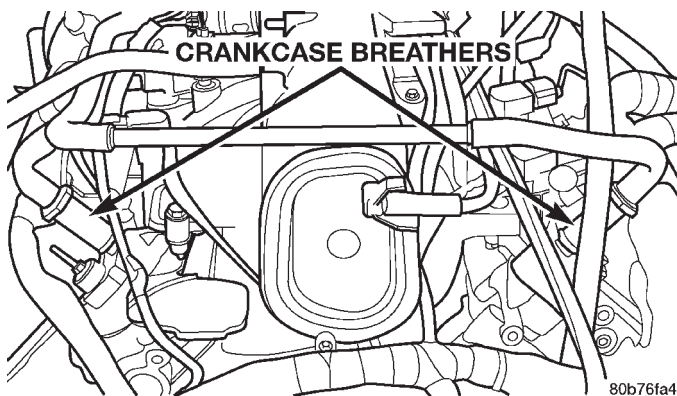
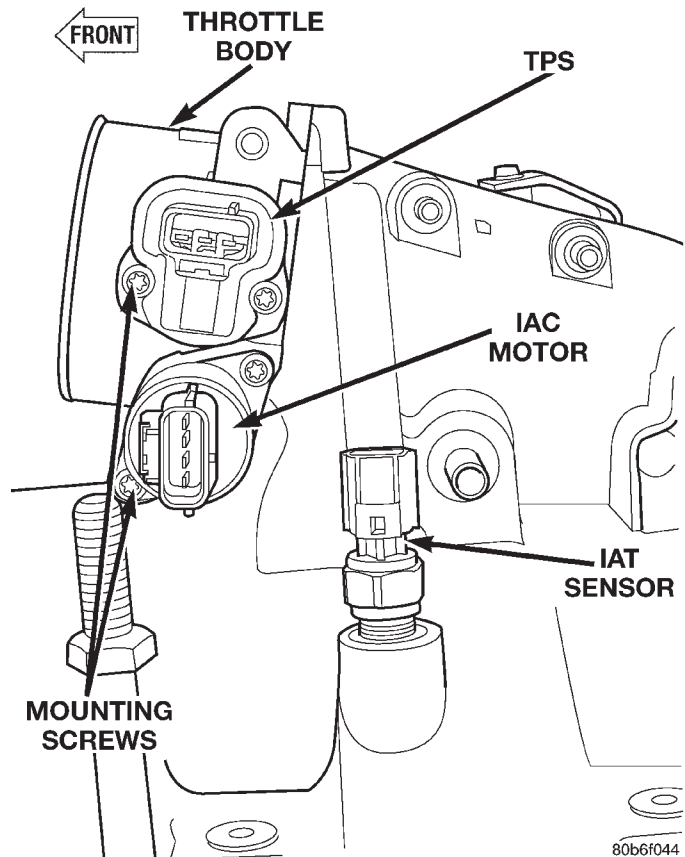
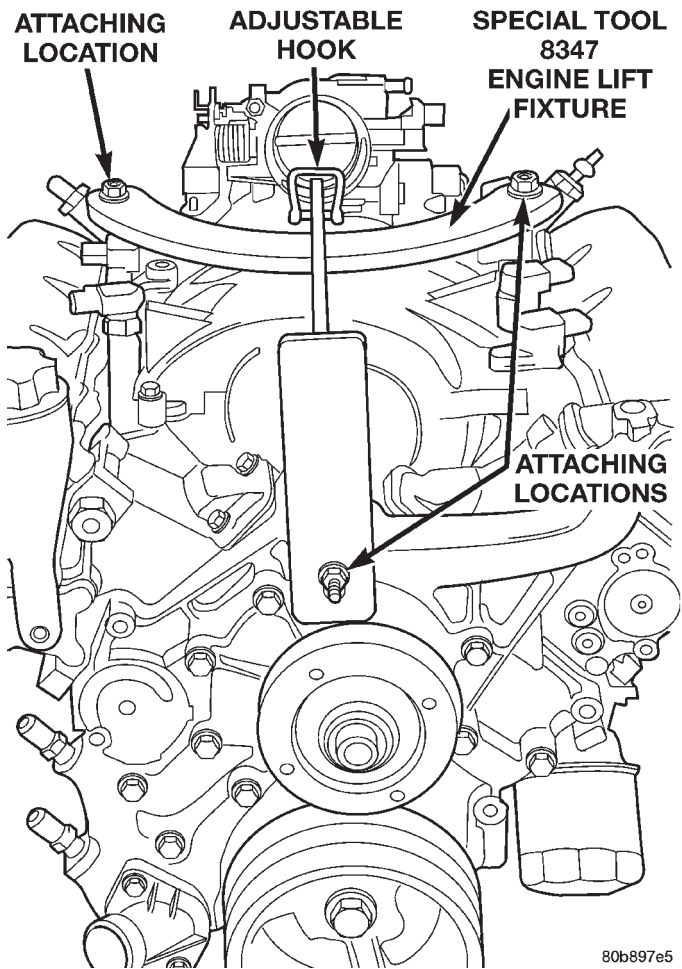

Fig. 31 Crankcase Breather Connection Points
Fig. 32 Throttle Body Connection Points
Fig. 33 Engine Lifting Fixture Attachment Locations
(17) Disconnect throttle and speed control cables.
(18) Disconnect tube from both the left and right side crankcase breathers (Fig. 31).
(20) Remove A/C compressor.
(21) Remove shroud, fan assemblies and accessory drive belt. Refer to Group 7, Cooling System.
(22) Remove oil fill tube.
(23) Disconnect transmission oil cooler lines at the radiator.
(24) Disconnect radiator lower hose at the thermostat housing. Refer to Group 7.
(25) Remove radiator. Refer to Group 7, Cooling System.
(26) Remove A/C condenser. Refer to Group 24, Heating and Air Conditioning.
(27) Remove generator mounting bolts, set the generator aside.
(28) Disconnect the two heater hoses from the timing chain cover.
(29) Disconnect engine harness at the following points:
- Intake air temperature (IAT) sensor (Fig. 32)
(30) Release fuel rail pressure then disconnect the fuel supply quick connect fitting at the fuel rail. Refer to Group 14 Fuel System for procedure.
(31) Remove power steering pump and position out of the way.
(32) Disconnect ground straps from the left side of the engine.
(33) Remove oil dipstick tube upper mounting bolt. Then remove the generator wiring from behind the dipstick tube.
(34) Install Engine Lifting Fixture Special Tool 8347 (Fig. 33) following these steps.
- (1) Position engine in the vehicle. Position both the left and right side engine mount insulators and install the through bolts.
- (2) Install two lower transmission to engine mounting bolts.
- (3) Remove jack from under the transmission.
- (4) Install both the left and right side engine mount insulators onto the engine.
- (5) Remove engine lifting fixture special tool 8347 (Fig. 33).
- (6) Position generator wiring behind the oil dipstick tube, then install the oil dipstick tube upper mounting bolt.
- (7) Connect ground straps on the left side of the engine.
- (8) Install power steering pump.
- (9) Connect fuel supply line quick connect fitting.
- (10) Connect engine harness at the following points (Fig. 32):
- (11) Install generator.
- (12) Install A/C condenser.